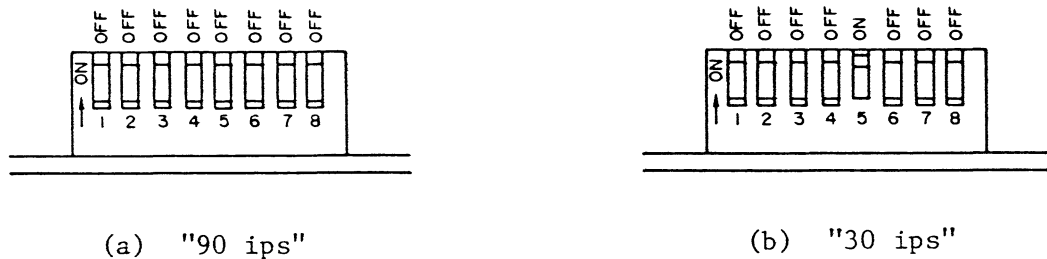

Fig. 410 Setting of SOA MODE switch
- (1) Detach the PCBA Interface Control from MTU in accordance with Item 4-4-10.
- (2) Set the MODE switch mounted on the right side face of SOA as shown in Fig. 410.